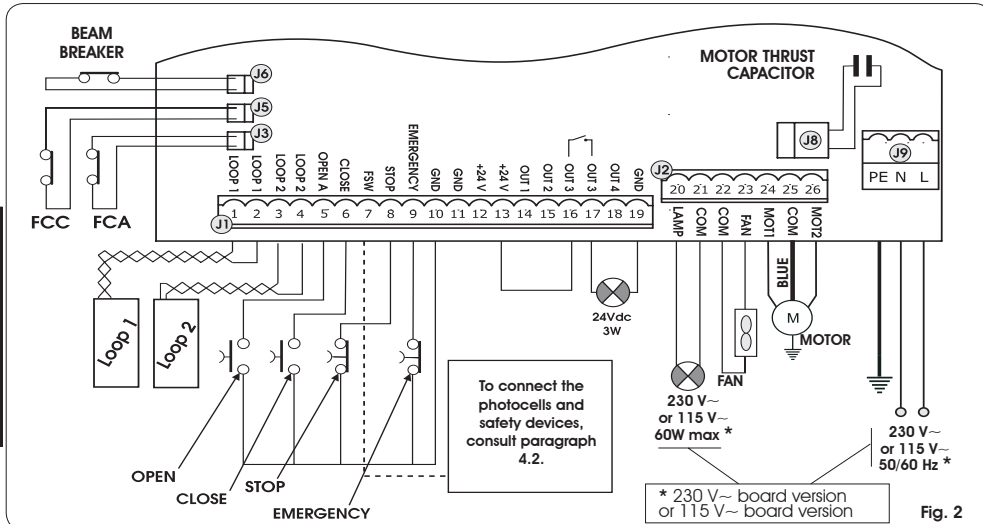

Fig. 2
- Connect the earth cable to the terminal on the J9 connector of the unit (see fig.2).
4.1. J1 TERMINAL-BOARD - ACCESSORIES (FIG. 2)
⚠ To avoid endangering correct operation of the system, do not exceed the indicated power indicated in fig. 2.
4.4. J2 TERMINAL-BOARD - MOTOR, FLASHING LAMP AND FAN (FIG. 2)
4.5. J8 CONNECTOR - MOTOR CAPACITOR (FIG. 2)
4.6. J9 TERMINAL-BOARD - POWER SUPPLY (FIG. 2)
4.7. J3, J5 RAPID CONNECTORS - FOR OPENING AND CLOSING LIMIT-SWITCHES (FIG. 2)
4.8. J6 CONNECTOR - BEAM BREAKING SENSOR (FIG. 2)